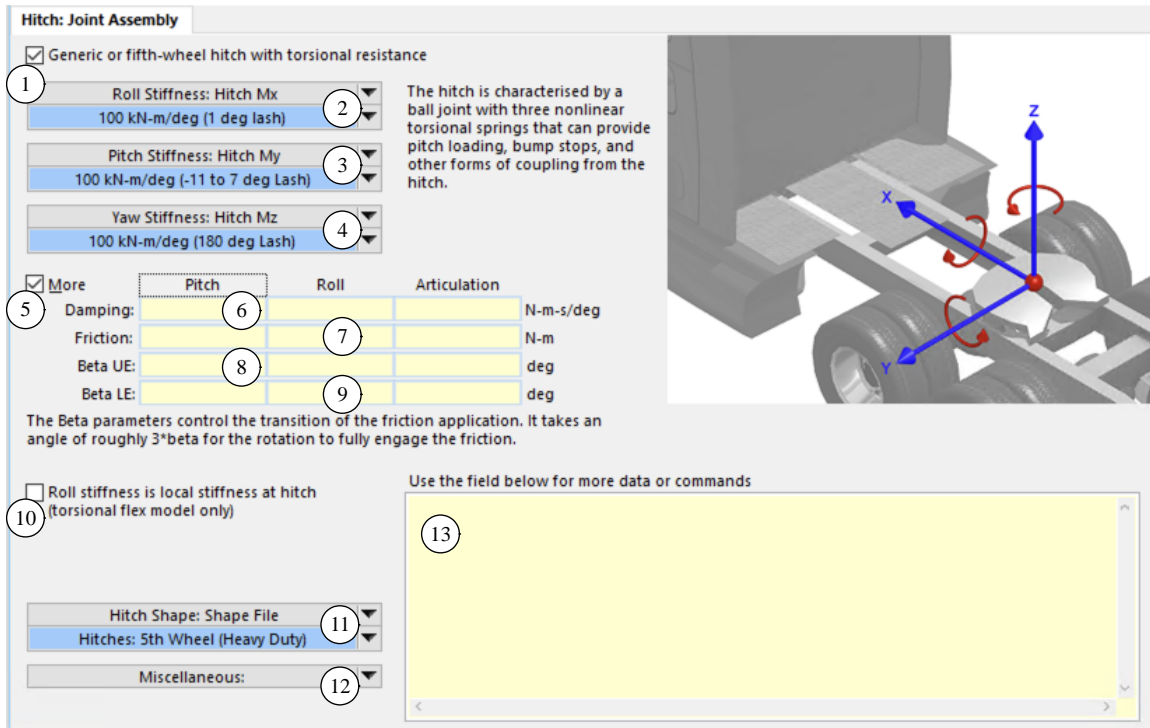
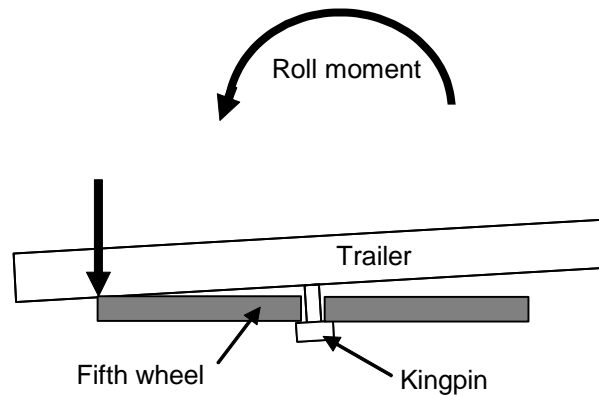
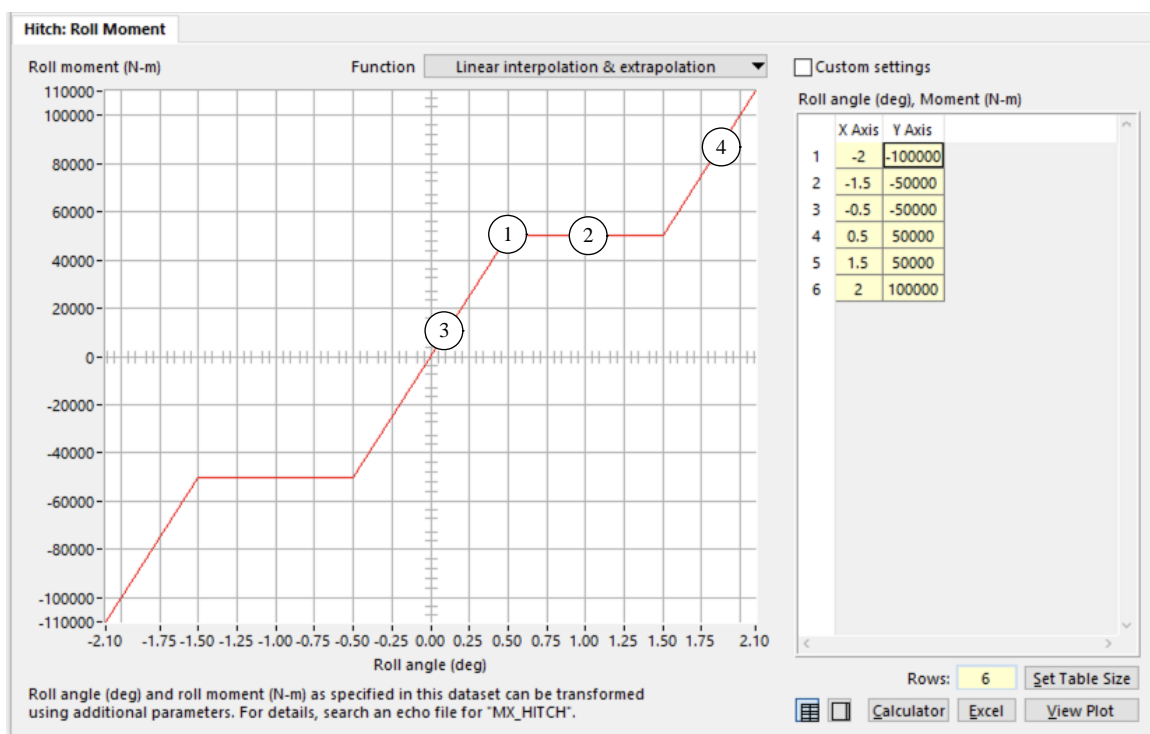
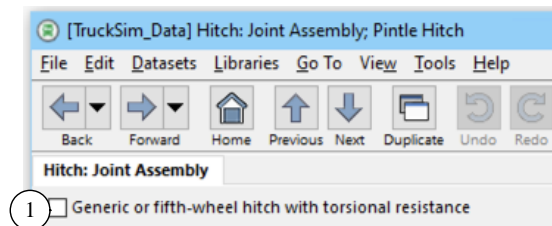

Figure 16. The Hitch Joint Assembly screen.
Figure 21. Tipping through lash.
Figure 22: A typical Roll Stiffness dataset for a fifth wheel.
Figure 23. Hitch screen with Generic/fifth-wheel button unchecked for pintle hitch.
2. The hitch roll deflection is modified to account for the local roll angle introduced by twist of the chassis (leading and trailing) at the location of the hitch. This option is enabled with a checkbox on the Hitch screens, as shown in Figure 16 (page 13) and Figure 17 (page 15).
Use this screen (Figure 16) to specify non-linear relationships between the resisting moments and angles of rotation directly using tables (e.g., Figure 22, page 17).
- ② Link to a Configurable Function dataset that defines a relationship between hitch roll moment and roll angle, such as the example shown later in Figure 22 (page 17). The root name for this function is `MX_HITCH`.
- ③ Link to a Configurable Function dataset that defines a relationship between hitch pitch moment and pitch angle. The root name for this function is `MY_HITCH`.
- ④ Link to a Configurable Function dataset that defines a relationship between hitch articulation moment and articulation angle. The root name for this function is `MZ_HITCH`.
- ⑤ **More** checkbox. Check to view more parameters: ⑥ - ⑨. This option is available only when the first checkbox ① is checked.
- ⑥ Torsional damping coefficients for each rotation axis (keywords = HITCH\_DMP\_X, HITCH\_DMP\_Y, HITCH\_DMP\_Z).
- ⑦ Torsional friction about each rotation axis (keywords = HITCH\_FRIC\_X, HITCH\_FRIC\_Y, HITCH\_FRIC\_Z).
- ⑧ Beta parameters for approaching the upper friction limits when the friction torque goes from negative to positive (keywords = BETA\_UE\_X, BETA\_UE\_Y, and BETA\_UE\_Z). These are approximately 1/3 the angle needed to travel through a torsional spring hysteresis (friction) loop when the rotation angle is increasing.
- ⑨ Beta parameters for approaching the lower friction limits when the friction torque goes from positive to negative (keywords = BETA\_LE\_X, BETA\_LE\_Y, and BETA\_LE\_Z). These are approximately 1/3 the angle needed to travel through a torsional spring hysteresis (friction) loop when the rotation angle is decreasing.
- ⑩ Checkbox to enable the alternate use of relative roll for use with models that have frame twist, as described earlier (page 8, Keyword = OPT\_ROLL\_HITCH). This option is used under the following conditions: (1) the first checkbox ① is checked, and (2) it applies for simulations with the frame twist feature enabled on the License Settings window (**Tools > License Settings**). The frame twist feature is available as an extra license option in CarSim and TruckSim).
As an alternative to describing the hitch's roll, pitch, and yaw stiffnesses directly via tables in the GUI, the hitch may instead be described with parameters used to automatically build the nonlinear tables for the three moments. The **Hitch: Parameters** screen (Figure 17) has all the controls shown on the **Hitch: Joint Assembly** screen, except for the three links to the hitch moment Configurable Functions (Figure 16, ②, ③, ④). These are replaced with parameters (⑭ - ⑰) used to build the tables automatically. For example, Figure 18 shows the three hitch moment tables written for the dataset shown in Figure 17.
When the roll moment generated by the lateral acceleration becomes large enough to shift the trailer's vertical load to the edge of the fifth wheel, the trailer can tip and contact the edge of the fifth-wheel's mating surface (Figure 21). Under these conditions the trailer is free to move through the lash in the fifth-wheel coupling, equivalent to about 1 or 2 degrees. This behavior can be captured in CarSim and TruckSim using the Configurable Function for **Hitch: Roll Moment** (Keyword = MX\_HITCH, Figure 22).
1. The hitch towing the trailer (either the **Hitch: Joint Assembly** screen or the **Hitch: Parameters** screen has a checkbox **Generic or fifth-wheel hitch with torsional resistance** (1) (Figure 16, page 13, or Figure 17, page 15). This box must be *unchecked* (1) (Figure 23).
Note	When the hinged tow bar option ① is set, the dataset for this screen will apply the command <code>OPT_HITCH_TYPE = 3</code> . An error is generated by the VS Math Model if the hitch type was already set to 1 (the box in Figure 23 was checked). To use the hinged tow bar option on the sprung mass screen, the hitch type must be set to either 2 (in which case the value will be changed to 3) or 3 (in which case the intended setting has already been made).
**Note** When the **articulation system** option is set (1), the dataset for this screen will apply the command `OPT_HITCH_TYPE = 4`. An error is generated by the VS Math Model if the hitch type was set to 1 (the checkbox in Figure 23 is unchecked). To use the articulation system option on the sprung mass screen, the hitch type must be set to either 1 (in which case the value will be changed to 4) or 4 (in which case the intended setting has already been made).